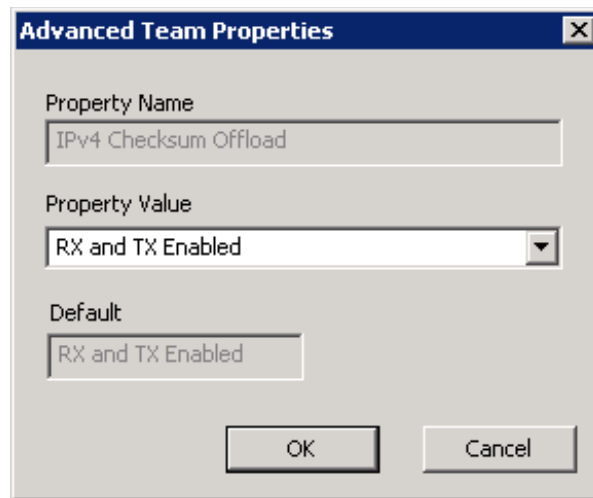

Figure 15: Modifying Advanced Team Properties
3. In the **Advanced Team Properties** dialog box (Figure 15), specify a new property value, and then click **OK**.